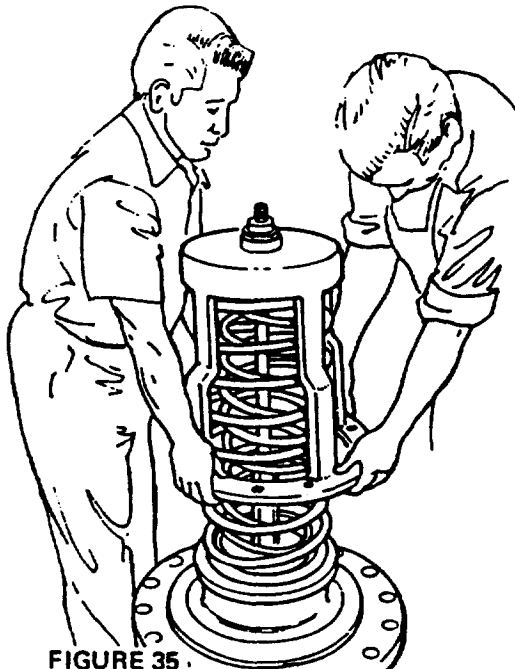

FIGURE 35.
- g. Remove the nut; then remove the spring retainer (3) and spring (7) (Fig. 35 and 36).